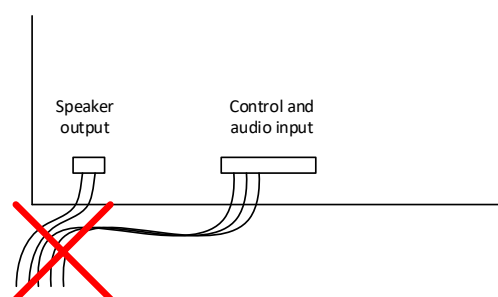

Figure 39: Wire bundling
- Do not bundle speaker wires together with other cables (Figure 39).